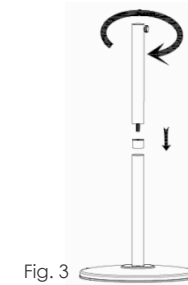

Fig. 3
3. Connect upper tube to the lower tube and turn clockwise until hand tight to secure as shown in Fig.3